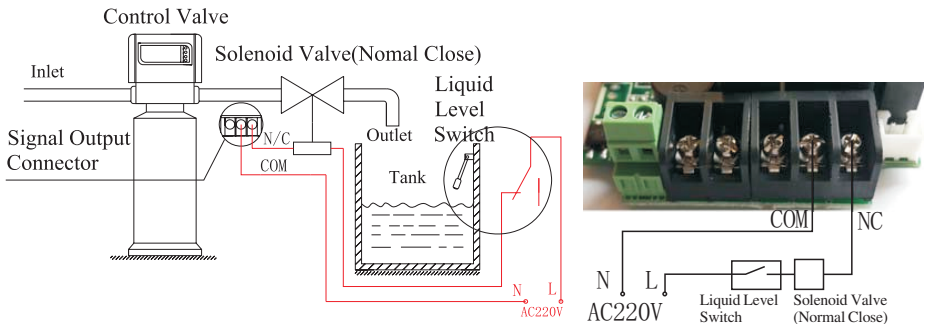

Figure 3-1 Wiring of Solenoid Valve on Outlet Pipe
**Instruction:** If the system strictly requires no hard water flowing out from outlet in regeneration cycle ( Mainly for no hard water flowing out when the valve is switching or the valve is in the regeneration positions), a solenoid valve could be installed in outlet pipe, the wiring refers to Figure 3-1.